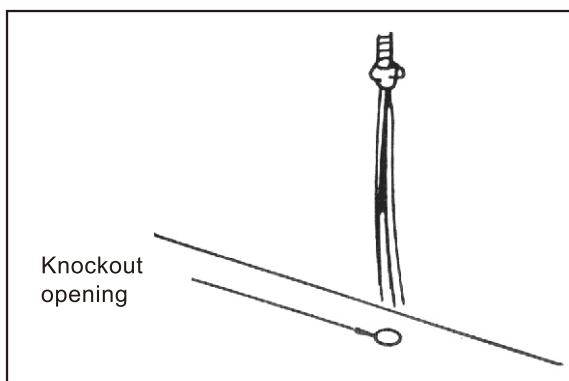

Fig.12 Route the power supply cord
8. Locate the range hood on the bottom of the cabinet. Thread the power supply cord through the knockout and secure the power cord on the hood. (Fig.12)